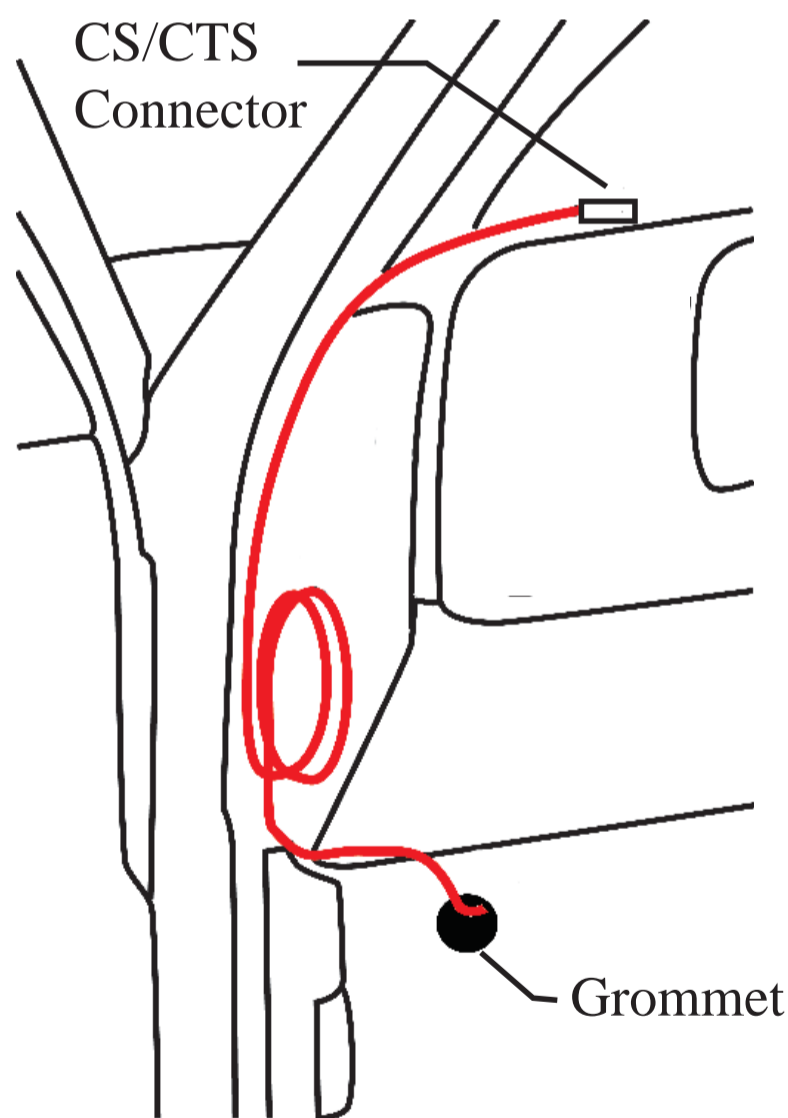

Figure 41 - ROUTING
- 3) Route the cable from below the dash up to the lower left corner of the driver side windshield. (Figure 41)